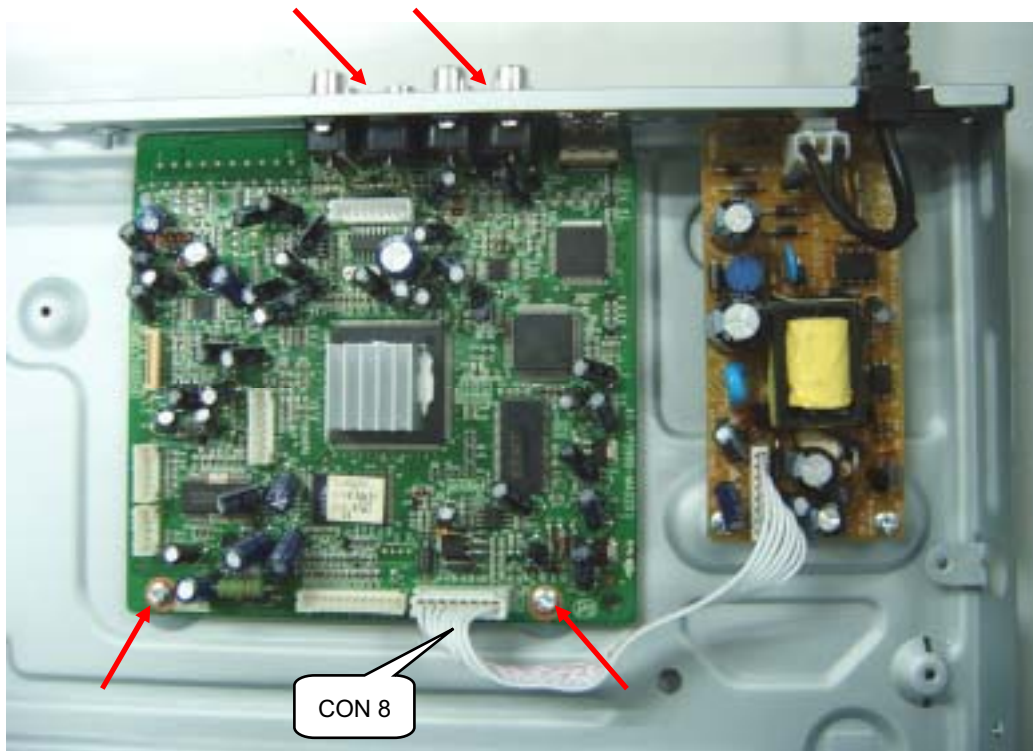

Figure 9
Step7: Dismantling Main Board, first disconnect the 1 connector, and then remove 4 screws. (Figure 9)